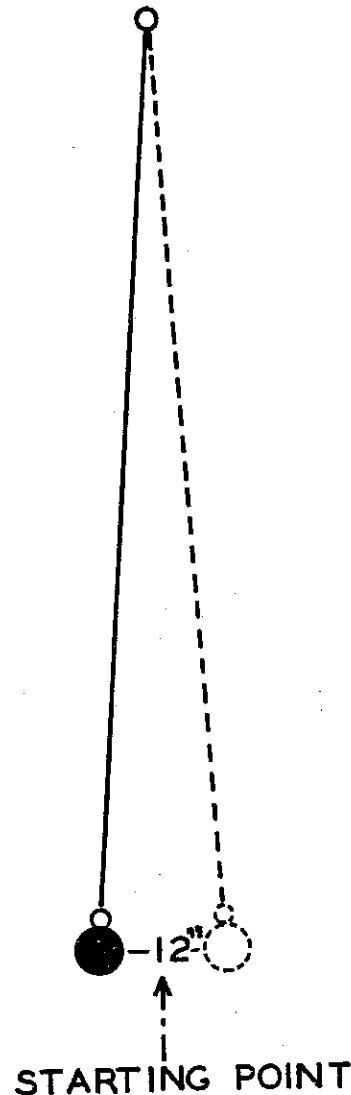
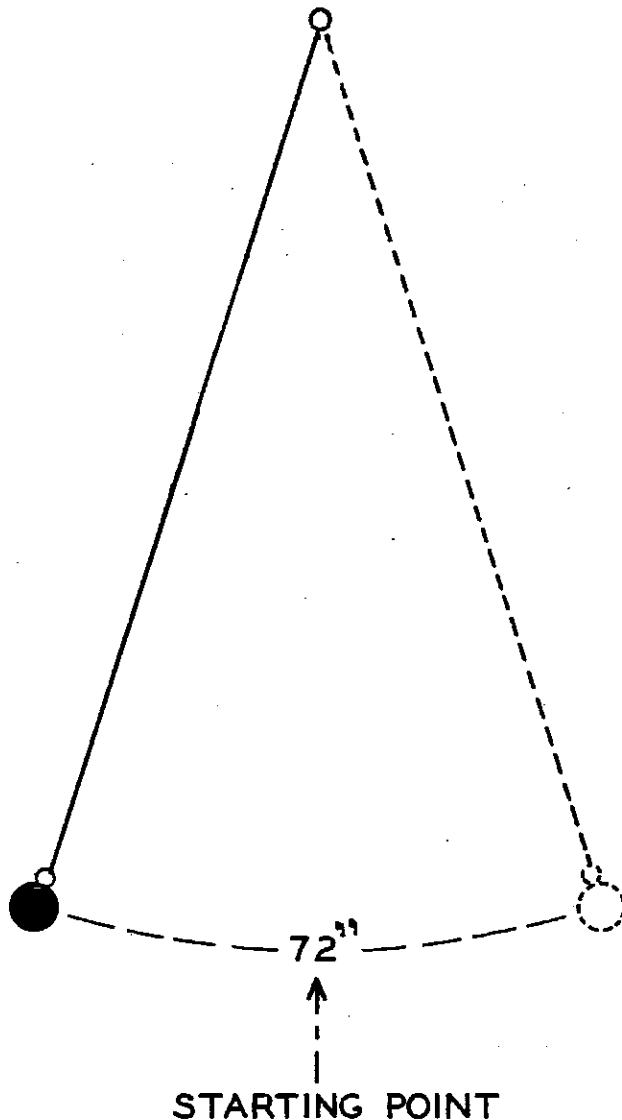

Fig. 18-5
Fig. 18-6
1. With the weight at rest, carefully pull it back about six inches and then release it as shown in figure 18-5.
3. Repeat steps 1 and 2 again, but this time pull the pendulum back about 36 inches or more, figure 18-6.
4. Compare results. You should find they are the same. From this experiment you can readily see that the time required for the pendulum to swing through the short arc of twelve inches, figure 18-5, and the long arc of seventy two inches, figure 18-6, is theoretically the same. In practice, however, you would have to consider the resistance of the air and in watches